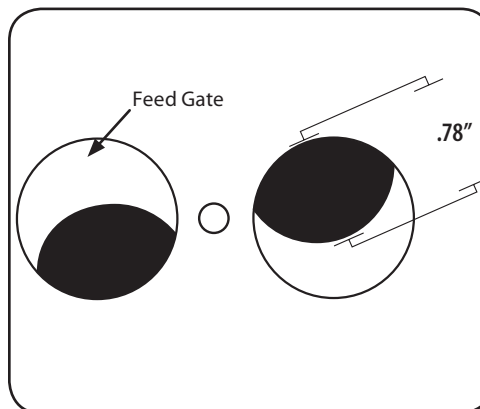

Figure 1-14
NOTE: Maximum tractor speed is approximately 5.2 mph. Any speeds above 5.2 mph are labelled N/A in the following charts. In such cases, the spreader **MUST** be used in the half open gate setting. See Figure 1-14.
- If your calculations result in a speed faster than the mower is capable of driving, divide your drive speed in half and use a half open gate setting. See Figure 1-14.